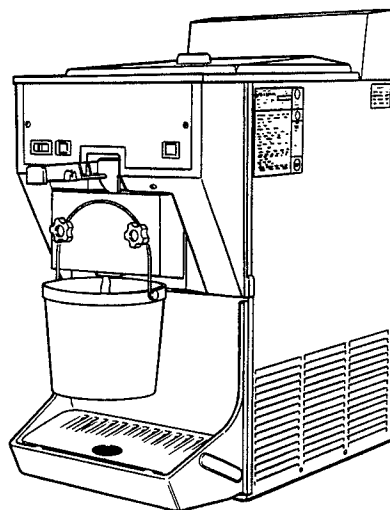

Figure 13. Spigot Opened and Solution Draining
- E. After five minutes, place a bucket under the spigot and open spigot to drain sanitizing solution. When solution has drained, place the CLEAN-OFF-ON switch in the OFF position. Allow the freezer barrel to drain completely (Fig. 13).